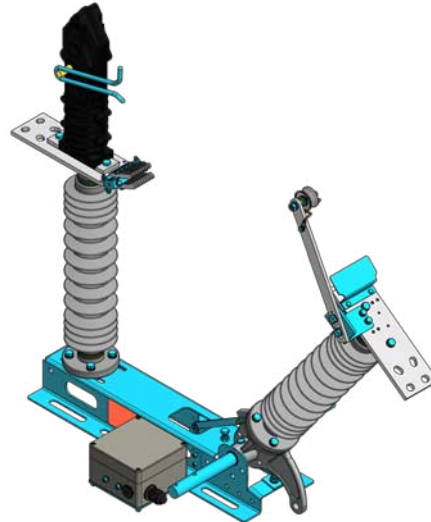

Fig. 16: MCS-LBS in "OFF"-Position
- Move the switching device towards switch position OFF (Fig. 16). The OFF auxiliary switch contact must not be closed until the main contact system (5) has moved approximately 80% in the switch-off direction.